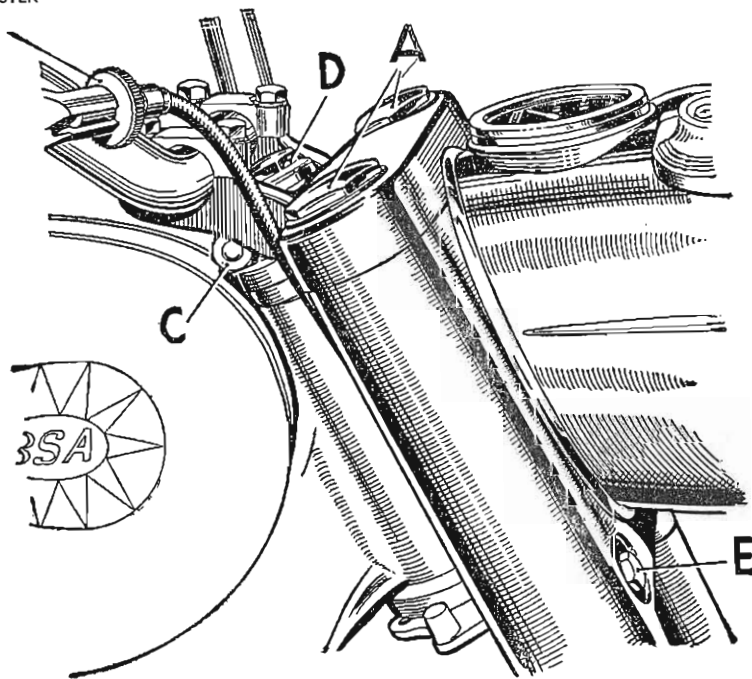
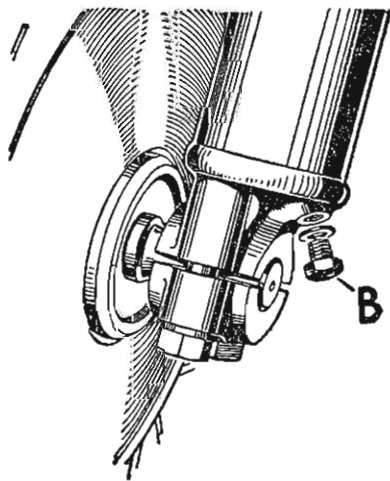

Fig. C25A. *Front fork and steering head.*
Fig. C26A. Front fork drain plug.
First remove the plugs marked (A) Fig. C25A, and take out the drain plugs shown at (B) Fig. C26A. After allowing the oil to drain out, apply the front brake and depress the forks a few times to drive out any oil remaining.
Slacken the clamping nut (c) Fig. C25A, and tighten the cap nut (d) until the adjustment is correct. The handlebars should turn freely, if the movement is "lumpy" it indicates that the top nut is too tight or the ballraces are damaged.
Unscrew the cap nuts (A) Fig. C25A, take out the fork springs and slacken the pinch bolts (E) in the bottom yoke.
Take out the spring and slide the assembly up through the bottom yoke and using Service Tool 8 41 61-3350 draw the leg up tight into the top yolk tightening the pinch bolt (E) Fig. C25A before releasing the Service Tool.
The top cap (A) Fig. C25A can be used in place of the Service Tool but it must be removed again to refill with oil and to replace the spring.
Take out the four bolts securing the handlebar and lift the bar to one side. Slacken the pinch bolt (C) Fig. C25A and take off the caps (A) and (D) Fig. C25A and the top fork cover.
Grease the cups and press 24 balls into each. Slide the column carefully up into the head and place on the top cone and dust cover, next the top yoke and cap (D) Fig. C25A. Screw in the caps (A) and replace the handlebar.